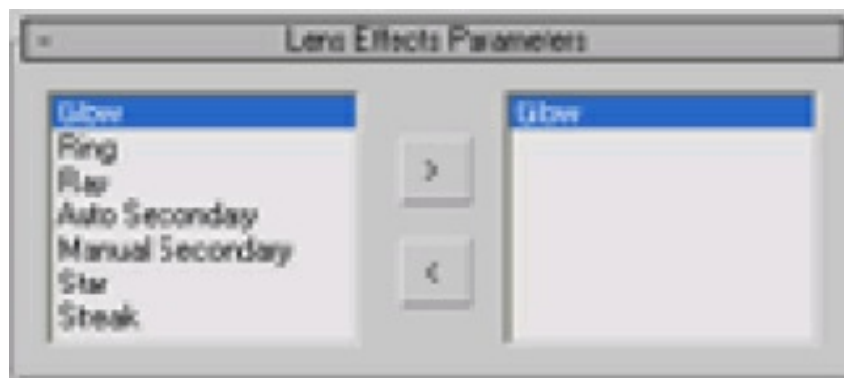

Figure 13-62 The Lens Effects Parameters rollout
8. In the **Effects** rollout, make sure the **Lens Effects** option is selected under the **Effects** area. Now, select the **Glow** effect and choose the right arrow button in the **Lens Effects Parameters** rollout; the **Glow** effect is displayed in the list available on the right side, as shown in Figure 13-62. Also, the **Glow Element** rollout is displayed at the bottom of the **Environment and Effects** dialog box to modify the parameters of the **Glow** effect.